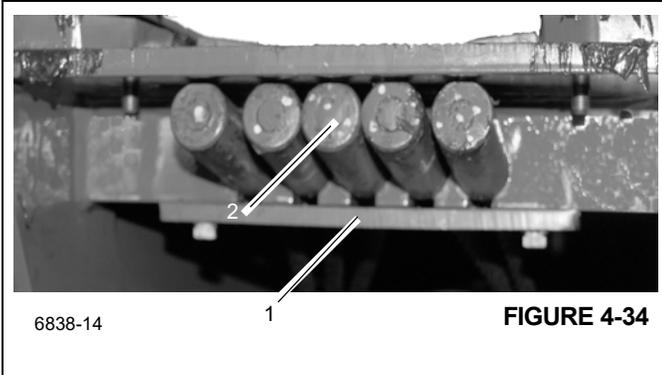

FIGURE 4-34
3. Remove the two bolts securing the extend cable keeper plate (1), (Figure 4-34) to the rear of the fly. Remove the keeper plate and remove the five extend cable ends (2), (Figure 4-34) from the slots in the fly.